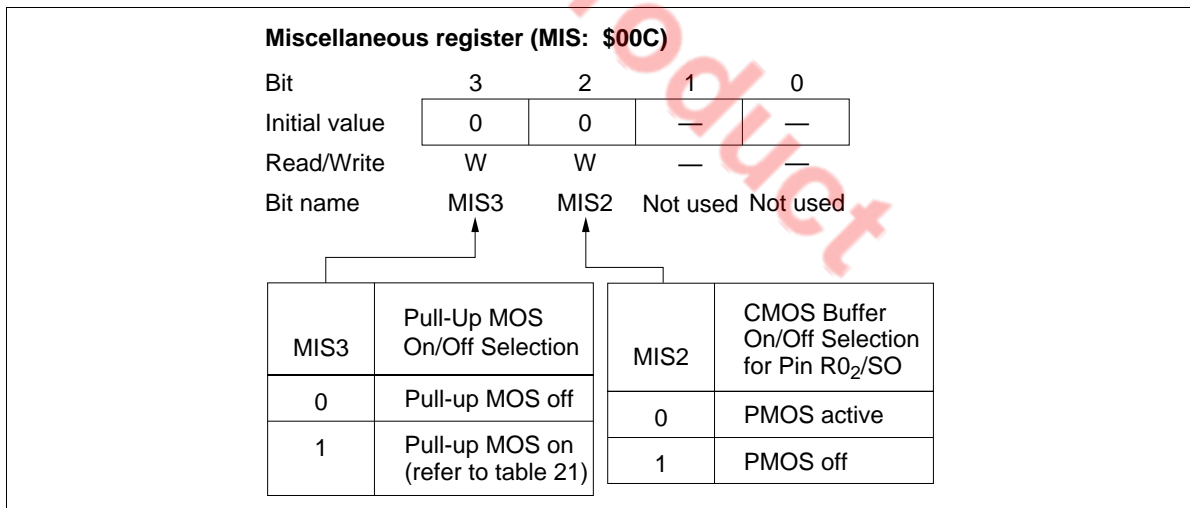

Figure 61 Miscellaneous Register (MIS)
**Miscellaneous Register (MIS: \$00C):** This register has the following functions (figure 61).